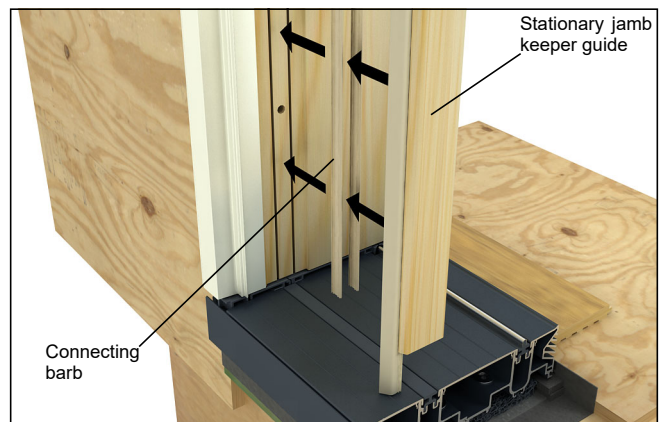

Figure 42
3. For pocket door systems proceed to step 5. For stacked units install stationary jamb keeper guide over the stationary jamb adjustable shim screws and secure with the connecting barb. See figure 42. Install foam seal header stationary.